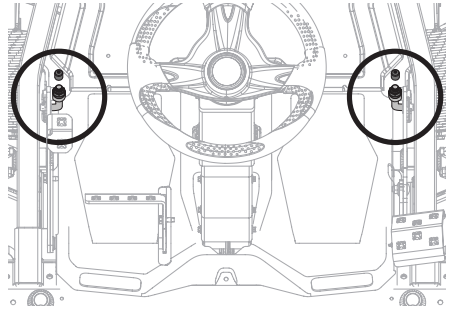

Figure 39
- a. Remove the end cap on both front deck height adjust rods and save for later reinstallation (Figure 39).
- b. Rotate both front nuts clockwise to raise the front deck pitch or counterclockwise to lower the front deck pitch, depending on the needed adjustment. Adjust each nut equally (Figure 39).